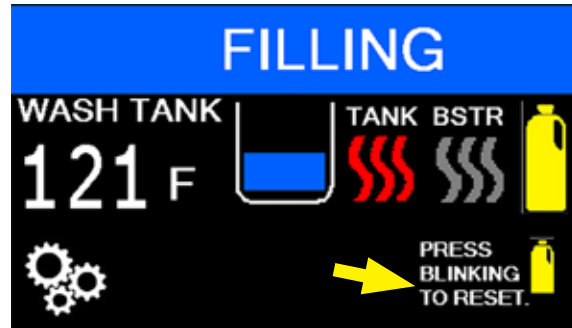

Fig. 79 - LOW DETERGENT ALERT - (flashing bottle)
1. If the Inline detergent sensor does not detect chemical within the prime cycle, then a flashing yellow bottle symbol appears on the operation screen indicating a "LOW DETERGENT ALERT", (Fig. 79).